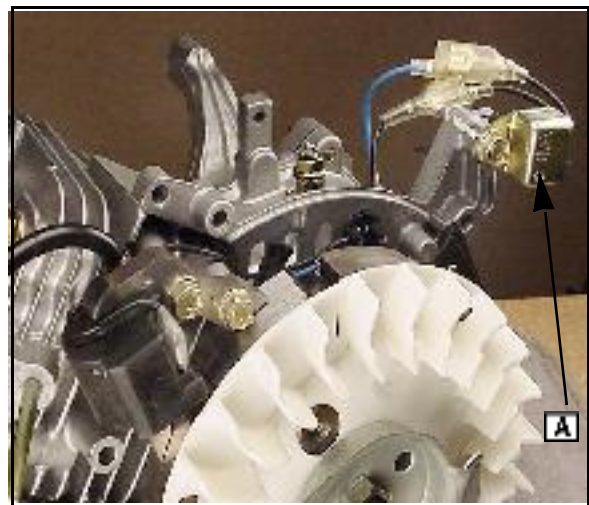

Fig. 7
8. Position the Oil Gard® module (A) Fig. 7) as shown.